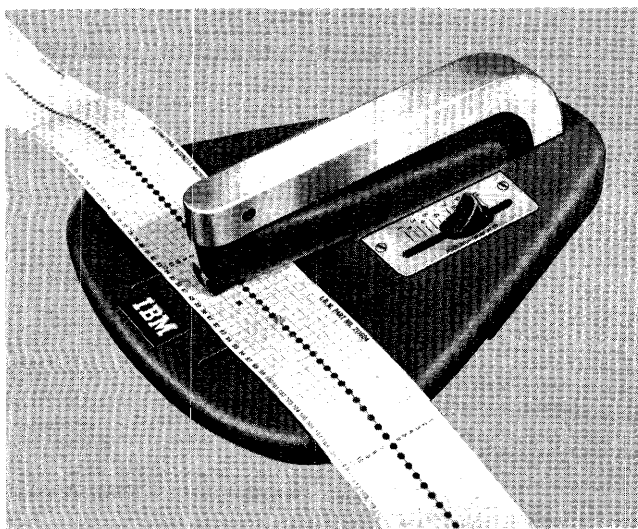

Figure 15. Tape Punch
***Six-Lines-per-Inch Spacing:*** A small, compact punch (Figure 15) is provided for punching the tape. The tape is first marked in the channels in which the holes are to be punched. This can be easily done by laying the tape beside the left edge of the form it is to control, with the top line (immediately under the glue portion) even with the top edge of the form. Then a mark is made in the first channel, on the line that corresponds to the first printing line of the form. Additional marks are made in the appropriate channels for each of the other skip stops, and for the overflow signal required for the flow.